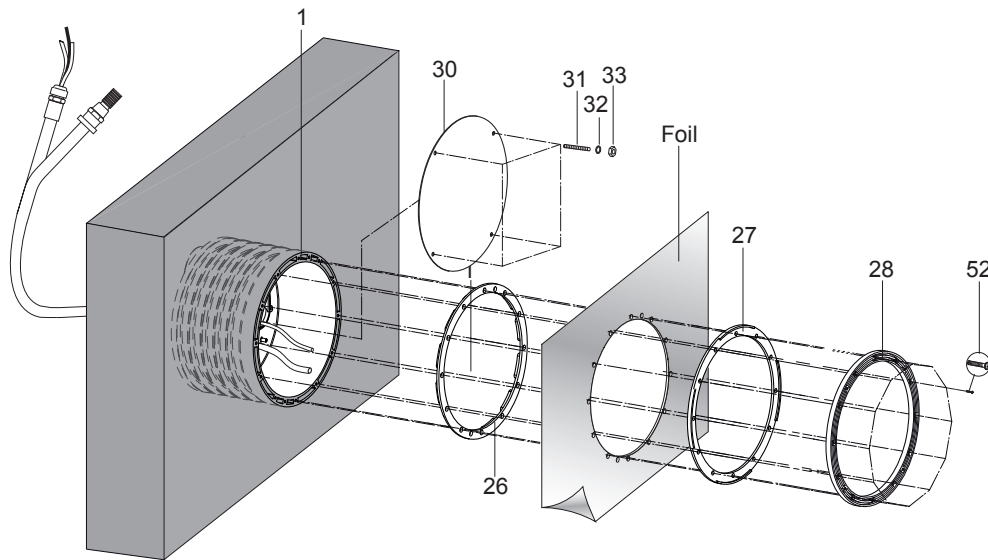

Figure 6
- **Concrete pool with vinyl liner:** Use the template in Figure 4 to mark and drill the holes through the liner (twelve (12) M8 holes and center 14" hole). Insert the gasket with knobs in the front of the jet housing (part# 26). Install the liner with the holes aligned to the jet housing. Align the clamping ring (part# 28) as shown in Figure 9. Using the twelve (12) M8 x 30 clamping ring screws (part# 52), attach the clamping ring to the jet housing. (See Figure 6)
- **For a concrete pool with vinyl liner:** Use the template in Figure 4 to mark and drill the holes through the liner (twelve (12) M8 holes and center 14" hole). Insert the gasket with knobs (part# 26) in the front of the jet housing. Install the liner with the holes aligned with the jet housing. Align the clamping ring (part# 28) as shown in Figure 9. Using the twelve (12) M8 x 30 clamping ring screws (part# 52), attach the clamping ring and handles to the jet housing. (See Figure 6)